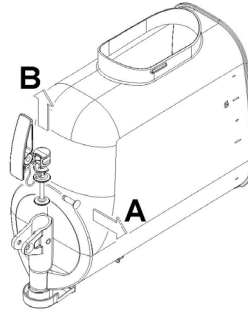

figure 12
- 5 Disassemble the tap by following the order given (see figure 12).